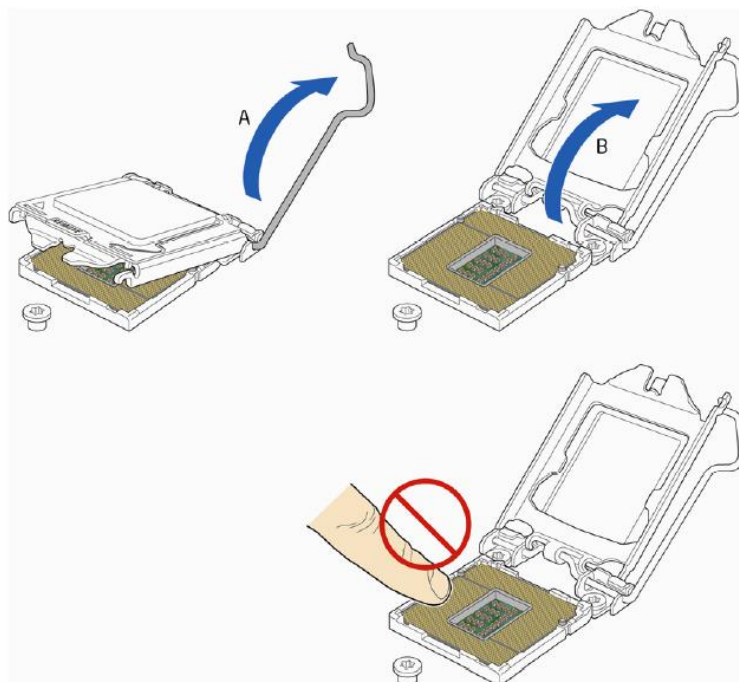

Figure 19: Lift the load plate
1. Unlatch the processor socket lever by pushing it down and away from the socket. (Figure 19, A, B)